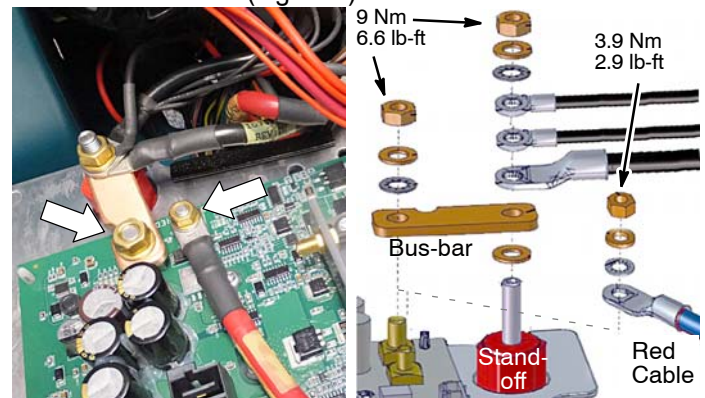

Fig. 9
11. Reconnect the bus-bar and red cable to the new control board as shown (Figure 9).